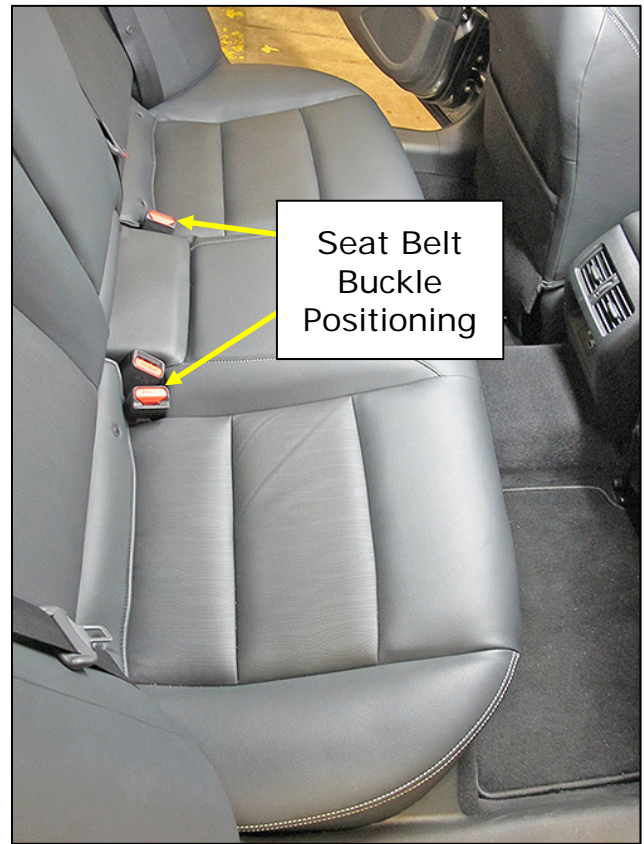

Figure 15
- b. Position the rear seat belt buckles into the slots in the seat cushion (Figure 15).